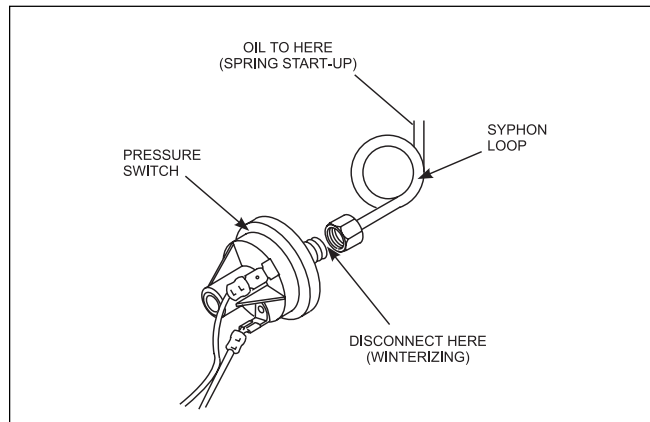

Figure 22. Pressure switch copper tubing.
8. Disconnect the pressure switch from the siphon loop (copper tubing) (see Figure 22).
1. Fill the siphon loop with approximately 5cc of SAE 50, non-detergent oil. Attach the copper tubing to the pressure switch (see Figure 22).